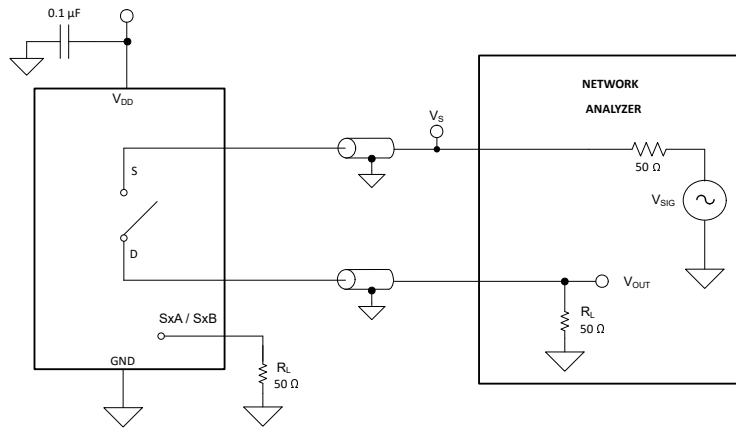

Figure 14-13. Off Isolation Measurement Setup
Off isolation is defined as the ratio of the signal at the drain pin (D) of the device when a signal is applied to the source pin (Sx) of an off-channel. Figure 14-13 shows the setup used to measure, and the equation used to calculate off isolation.